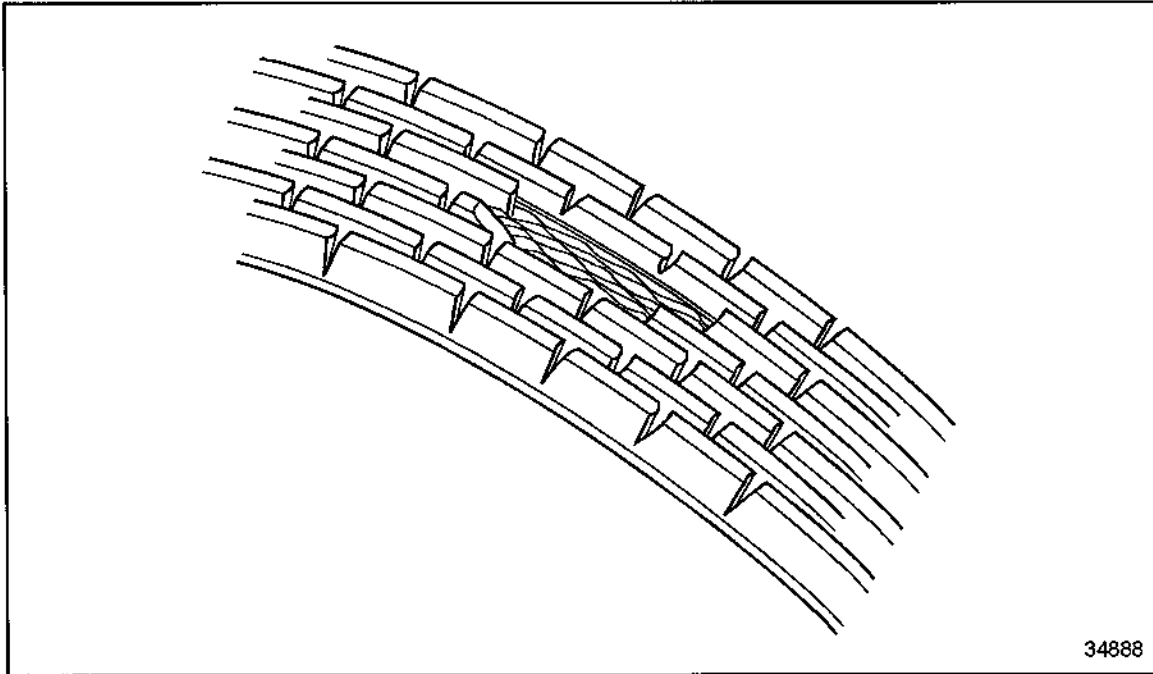

Figure 34 Rib Material Broken Away
3. The vee-ribbed belt must be replaced immediately if the ribs are cracked around the entire circumference and ribbed material has broken off. See Figure 34.